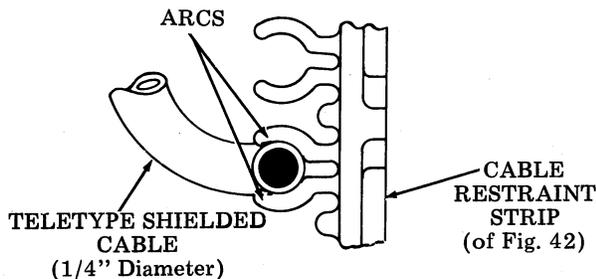

Fig. 41
- ③ Connect cables to the controller using the markings on the cable tags. Slip each cable into its cable restraint. Teletype Corporation shielded cable should be restrained within the arcs () of the restraint strip as shown in Fig. 41.